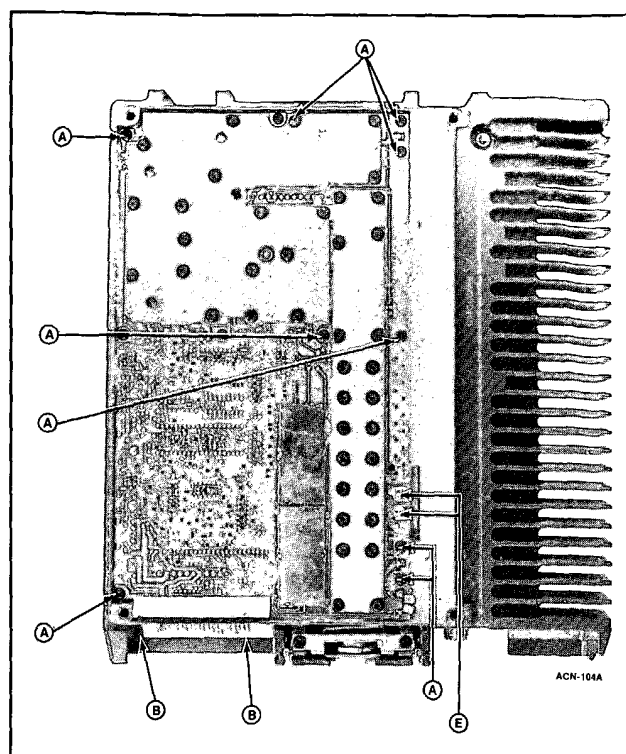
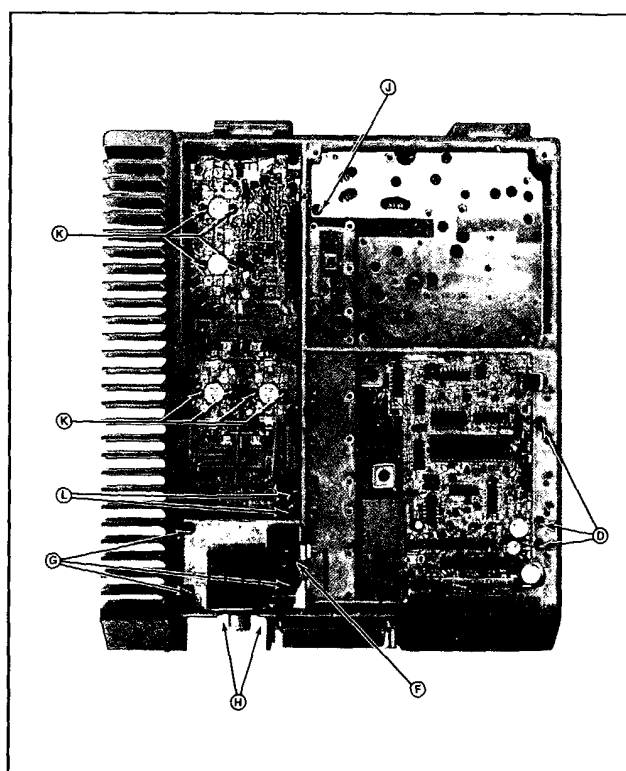

Figure 1 - Disassembly - Bottom View
Figure 2 - Disassembly - Top View
2. Remove the eleven retaining screws at (A) (Figure 1) securing the circuit board to the main frame.
3. Remove two retaining screws (B) securing systems connector J601 to front casting.
4. Unsolder the two feed through capacitor terminals (E) at holes H13 and H14 on printed wire pattern.
5. Turn over the radio and remove the three retaining screws (D) (Figure 2) securing the audio bridge amplifier, U601 and U602, and the 5 and 9 volt regulators U701 and U702 to the side of chassis.